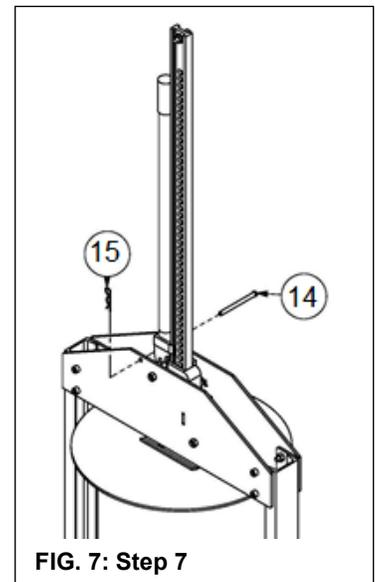

FIG. 7: Step 7
Step 7: Put the handle in an upright position. Insert the clevis pin (14) into the top holes of the jack plates when unit is not in use. Lock the pin in place with the hitch clip (15). See FIG. 7. The handle should also be secured whenever the compactor is not in use.
Step A: Free the jack handle by removing the storage pin (14). See FIG. 7 on p. 5. Turn the jack direction levers to UP position and fully raise the compactor platen. Refer to FIG. 9
Step H: Put the jack handle in the storage position and secure it with the clevis pin (11) and hitch pin (12). See FIG. 7 on p. 5.